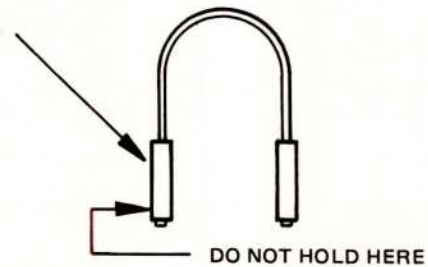

Figure 2-2. Coarse Range Selection
- (1) Determine the full scale analog voltage output of the device to be connected to that channel.
- (2) Use the lowest range possible, but the full scale analog input voltage must not be greater than the high limit listed for that range.
- (3) Refer to Figure 2-2 and make the proper jumper connections.